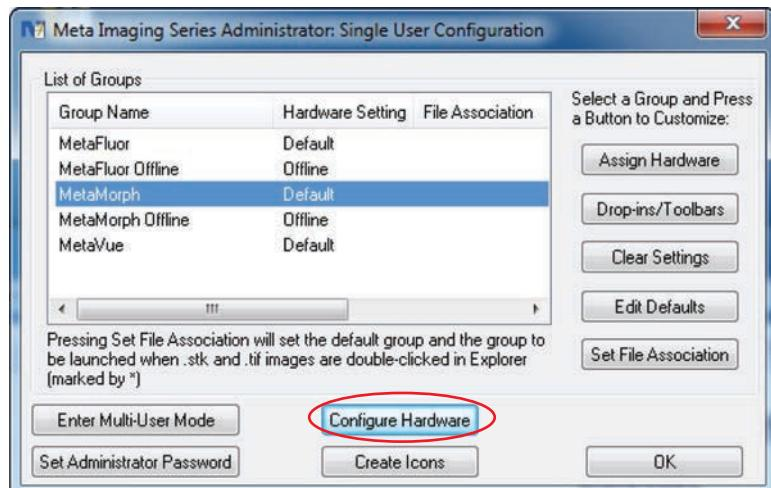

Figure H-8. Configure Hardware Button
3. Click the Configure Hardware button, shown in Figure H-8.